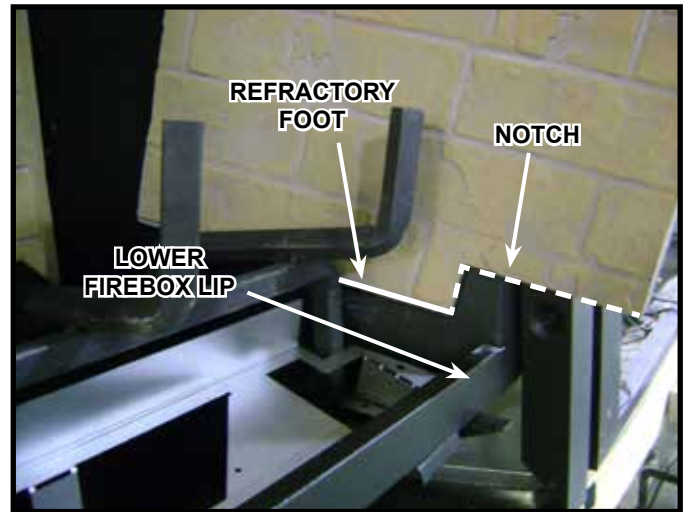

Figure 3
3. Place the right refractory panel against the right side-wall of the firebox. Rest the rectangular notch located on the bottom of the right refractory panel over the lower firebox lip. Let refractory foot rest on firebox after panel's notch has been mated with firebox lip. See Figure 3.